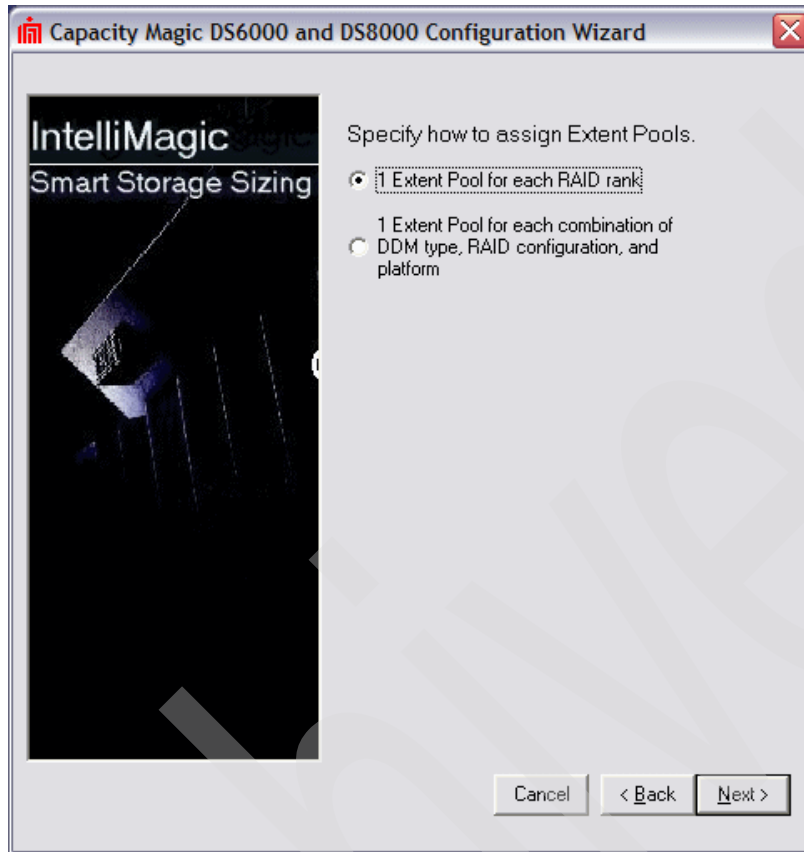

Figure 3-13 Method for defining the extent pool
4. Select the way in which you plan to define the extent pools. For System i attachment, we define **1 Extent Pool for each RAID rank** (see Figure 3-13). Click **Next**.